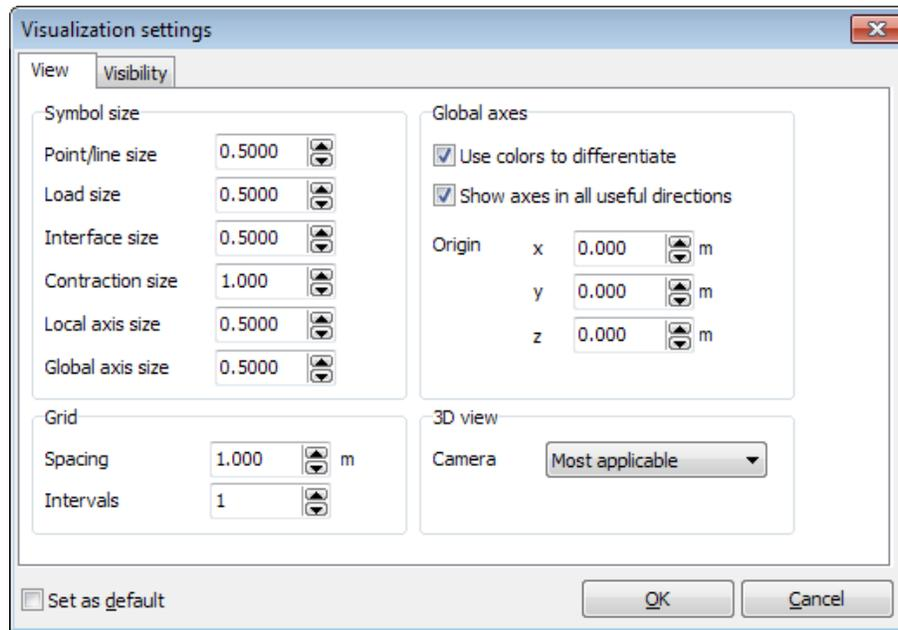
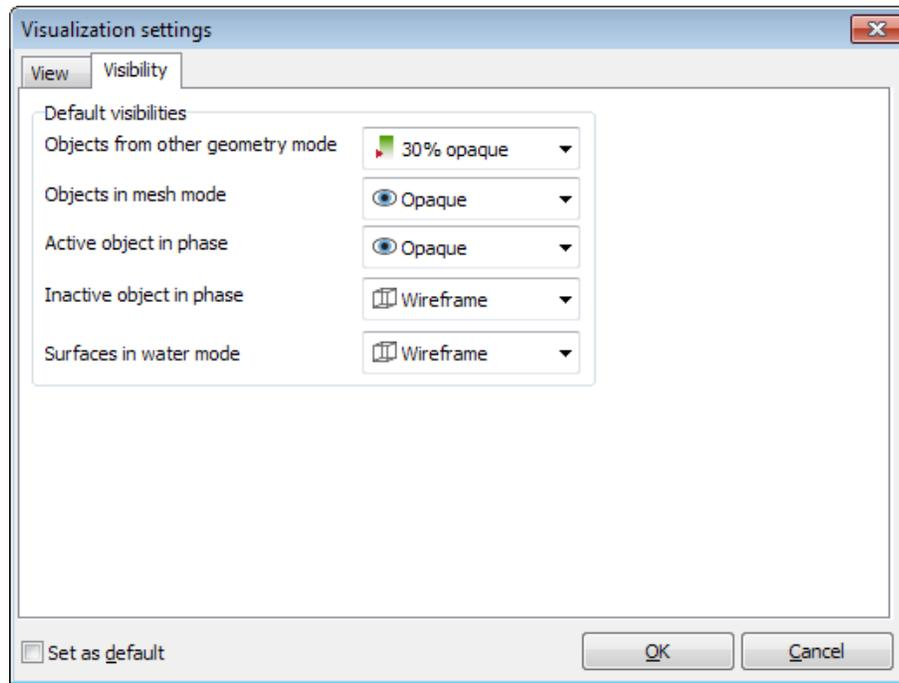

Figure 17: View options for drawing area
Figure 18: Visibility of objects
**Symbol size:** The size of the symbols is defined in the **Symbol size** dialog box. The default values are as shown in Figure 17: View options for drawing area (on page 43). These values can be used as a reference to get the preferred display.
**Default visibilities:** The default visibility of the objects in the model can be defined in the **Visibility** tabsheet (Figure 18: Visibility of objects (on page 44)).
The default visibility of an object (or group of objects) is indicated by the letter 'A' in the explorers. The default values for visualisation settings are shown in Figure 17: View options for drawing area (on page 43) and Figure 18: Visibility of objects (on page 44).